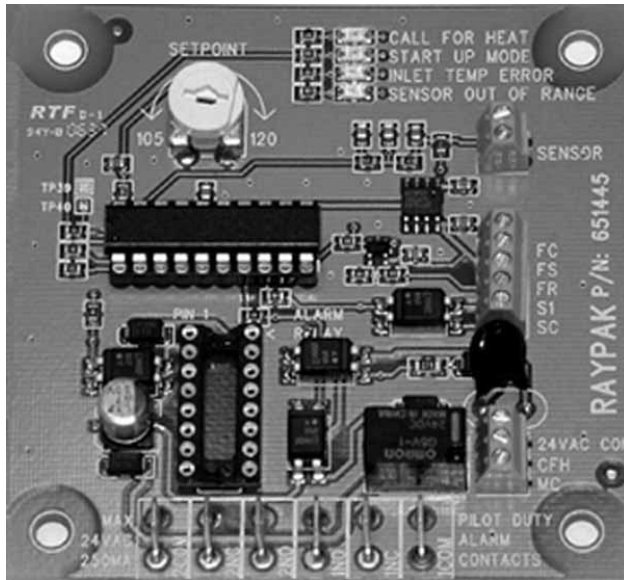

Fig. 18: Control Board
3. Insert and tighten all eight (8) wrench bolts, securing the pump body in place.
4. You will now be able to install the pump cover. See Fig. 18 and 19.